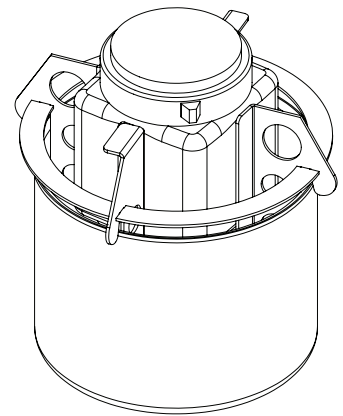

Figure 3
- **1 Gallon Square Cans:** Place the square can inside the gallon adapter with the lid up. (See Figure 3)